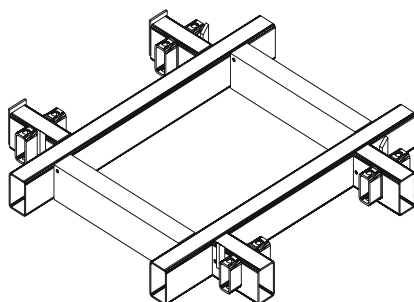

Fig. 149
- 4- Bolt the 90-degree axis adapter (fig. 149) to the mobile chassis.